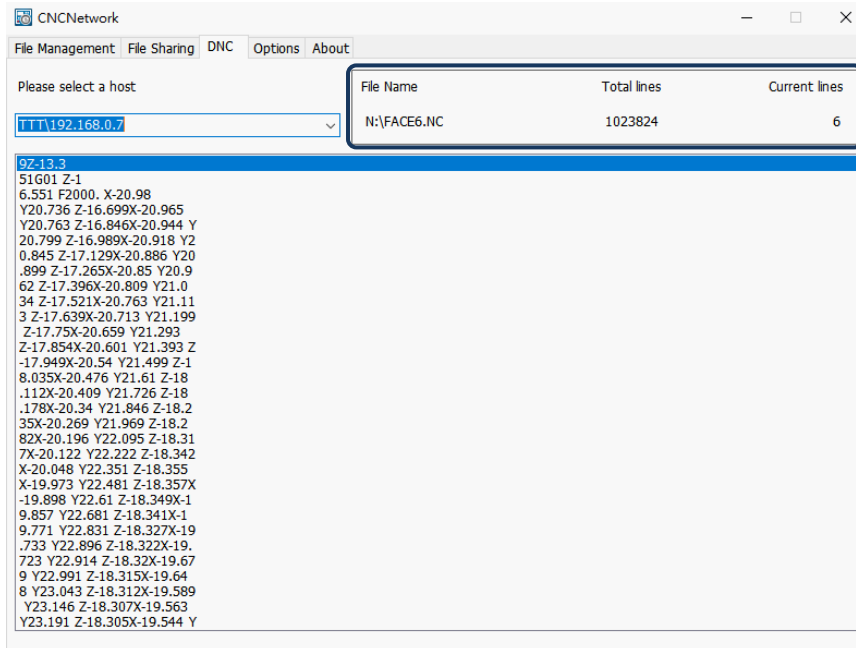

Figure 7.1.6
- (5) The screen displays the shared files. Select and open the G-code file that has been set to be shared.
- (6) Set the system to AUTO mode, press **CYCLE START**, and the system executes the G-code file by DNC operation. The execution method is the same as that for general files.
- (7) During DNC operation, file information is displayed in the DNC screen of CNCNetwork. The information includes name of the connecting system, name of the file executed by DNC, total number of lines, number of line being executed, and file content (the content is scrolled down along with the execution progress, as shown in Figure 7.1.6).